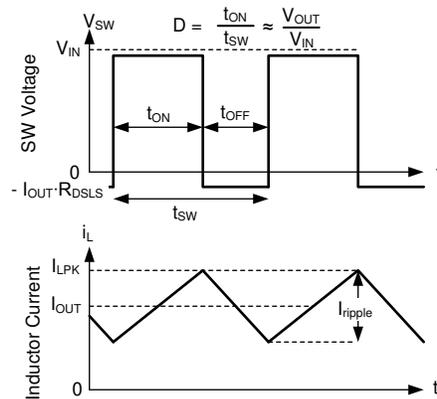

图 8-15. SW Voltage and Inductor Current Waveforms in Continuous Conduction Mode (CCM)
The following operating description of the LMR436x0 refers to 节 8.2 and to the waveforms in 图 8-15. In CCM, the LMR436x0 supplies a regulated output voltage by turning on the internal high-side (HS) and low-side (LS) switches with varying duty cycle (D). During the HS switch on time, the SW pin voltage, V_{SW} , swings up to approximately V_{IN} , and the inductor current, i_L , increases with a linear slope. The HS switch is turned off by the control logic. During the HS switch off time, t_{OFF} , the LS switch is turned on. Inductor current discharges through the LS switch, which forces the V_{SW} to swing below ground by the voltage drop across the LS switch. The converter loop adjusts the duty cycle to maintain a constant output voltage. D is defined by the on time of the HS switch over the switching period: